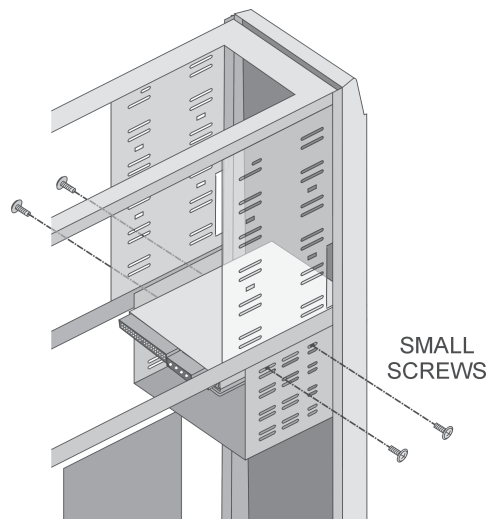

Figure 7-1:
- ___ c. Check to make sure that all the screws are secure in the drive and that it is not loose. See Figure 7-1.